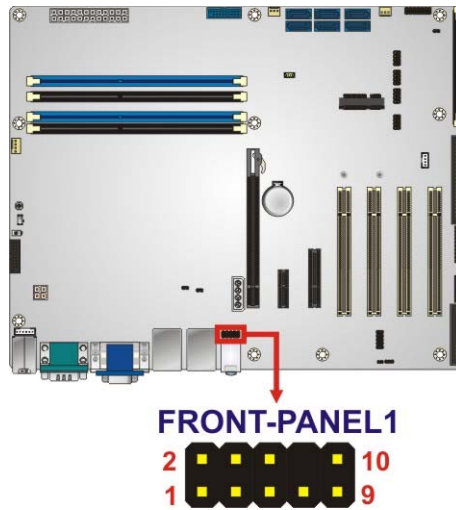

Figure 3-12: Front Panel Audio Connector Location
- CN Location: See Figure 3-12